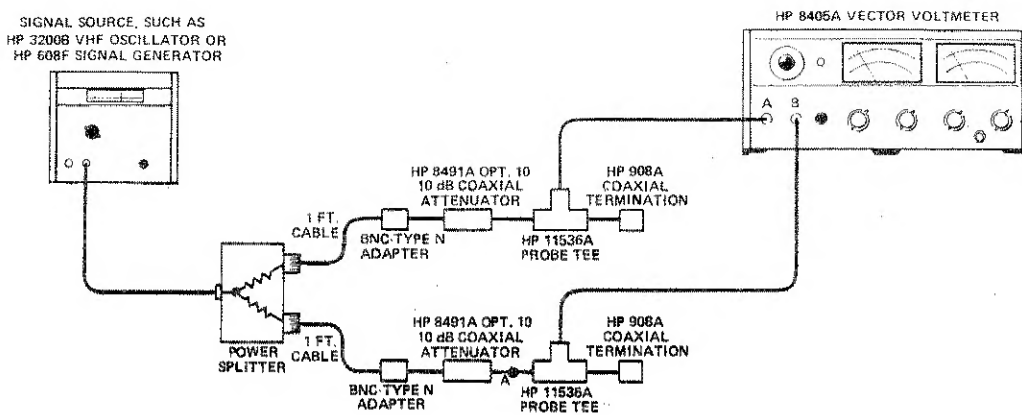

Figure 6. Setup for Making Transmission Measurements with HP 8405A
The HP Model 11652A Transmission/Reflection Kit (see Figure 1) is used when characterizing 50-ohm RF networks from 0.1 to 110 MHz. Swept measurements may be made when the HP 11652A is used with the HP 8407A Network Analyzer (see Figures 4 and 5). Single frequency measurements may be made when using the HP 11652A with the HP 8405A Vector Voltmeter (see Figures 6 and 7).
- a. Setup the equipment as shown in Figure 6.
- c. Insert the test device at point A in Figure 6 and make the measurement.